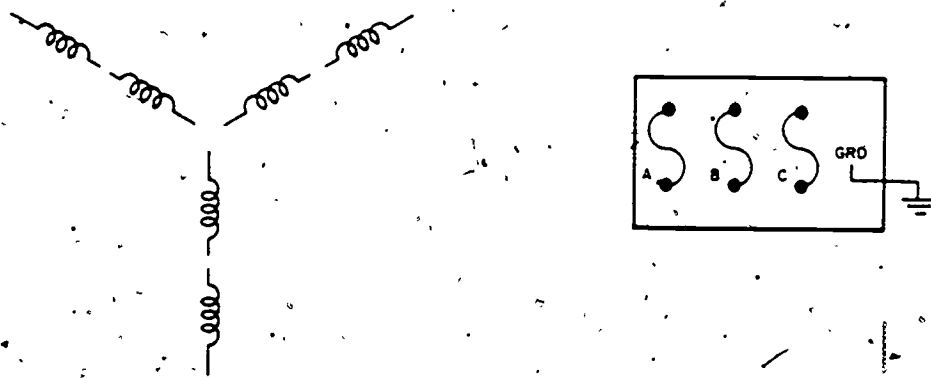

Figure 3. 440-Volt Circuit Diagram
1. Complete the schematic diagram in figure 3 by numbering the motor windings and drawing in the necessary connections and conductors for applying 440-volt power to the motor for high voltage operation.